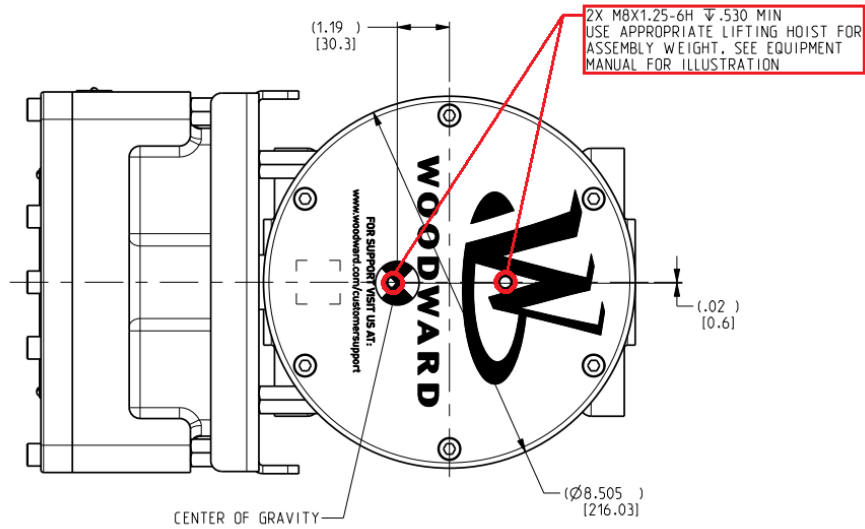

Figure 2-8. GS40 Lifting Eye Hole Locations
4. Remove the GS40 Fuel Metering valve. Utilize the M8x1.25 holes (located on the top of the GS40; see Figure 2-8) and appropriately rated M8 eyebolts to create a secure lifting point for lifting straps.